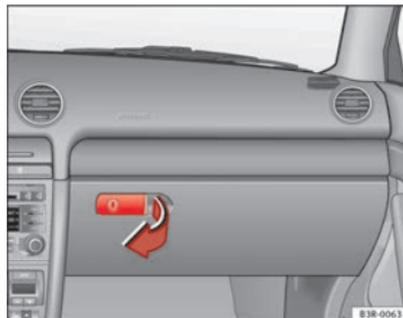

Fig. 126 Glove compartment
- Pull the handle on the lid in the direction indicated (arrow) ⇒ Fig. 126 and open the lid.